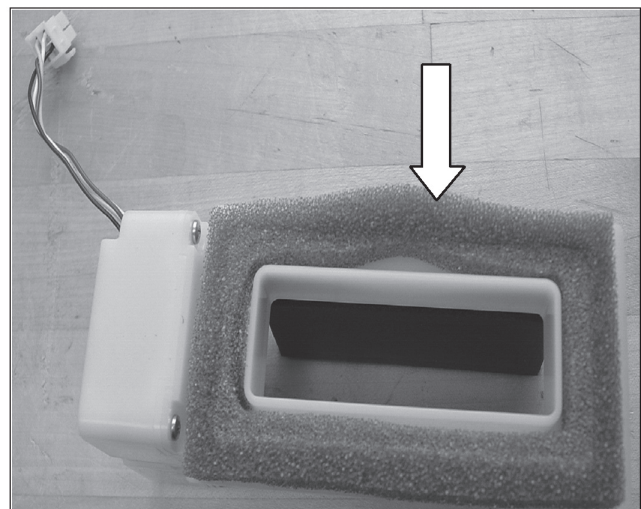

Figure 4
4. Remove the air damper and disconnect the wiring harness, see figure 4.